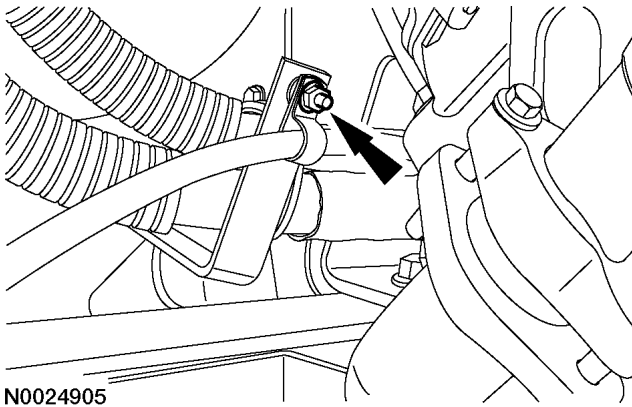

Figure 3 Remove Clamp from Shift Cable (Arrow)
4. Remove the clamp from the frame mounted bracket and the shift cable (Figure 3).